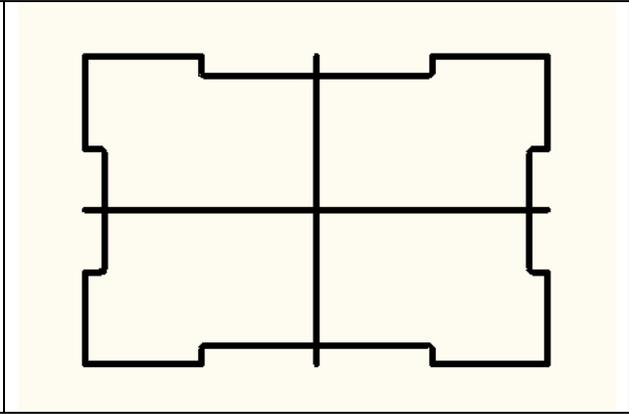

Figure 2.22 – All 1/16 arcs added
2.21. After selecting the two lines, the lines will shorten and a 1/16 radius arc will appear. Continue to repeat the process until your drawing looks like ours in Figure 2.22. Hit ENTER to exit the command.